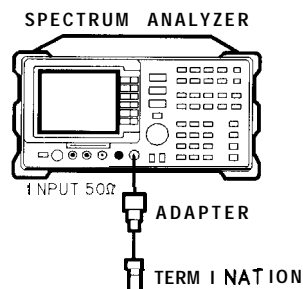

Figure 2-76. Residual Response **Test** Setup
1. Connect the termination to the spectrum analyzer input as shown in Figure 2-76.
**MKR FCTN** MK TRACK **ON** OFF (ON)